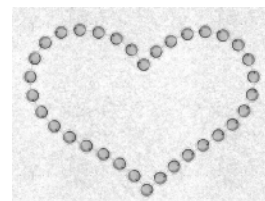

Fig. 12
8. The default crystal size is 10ss. Select the desired size and color of the crystals in *Object Properties*. Resize as necessary (See Fig. 12).